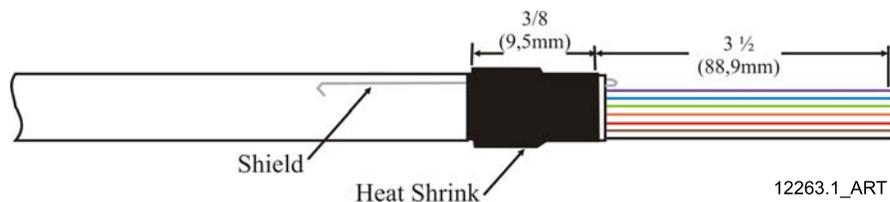

Figure 4-7: Seven-Conductor Control Head Cable Shield Wire and Heat-Shrink
- H Secure the cable to the frame using a conductive Clamp at the entrance and a tie-wrap thereafter as described in Figure 4-7: Seven-Conductor Control Head Cable Shield Wire and Heat-Shrink.
- I Connect the conductors to the appropriate pins as shown on Table 4-3: Processor Circuit Board Connections to DP Enclosure Circuit Board Terminations, using a small slotted screwdriver as described in Figure 4-7: Seven-Conductor Control Head Cable Shield Wire and Heat-Shrink.
- C Follow the cable preparation and installation as described in Figure 4-7: Seven-Conductor Control Head Cable Shield Wire and Heat-Shrink.
- D Connect the conductors to the appropriate pins as shown in Table 4-4: Processor Circuit Board Connections to DP/Joystick Enclosure Circuit Board Connections:, using a small slotted screwdriver as described in Figure 4-7: Seven-Conductor Control Head Cable Shield Wire and Heat-Shrink.